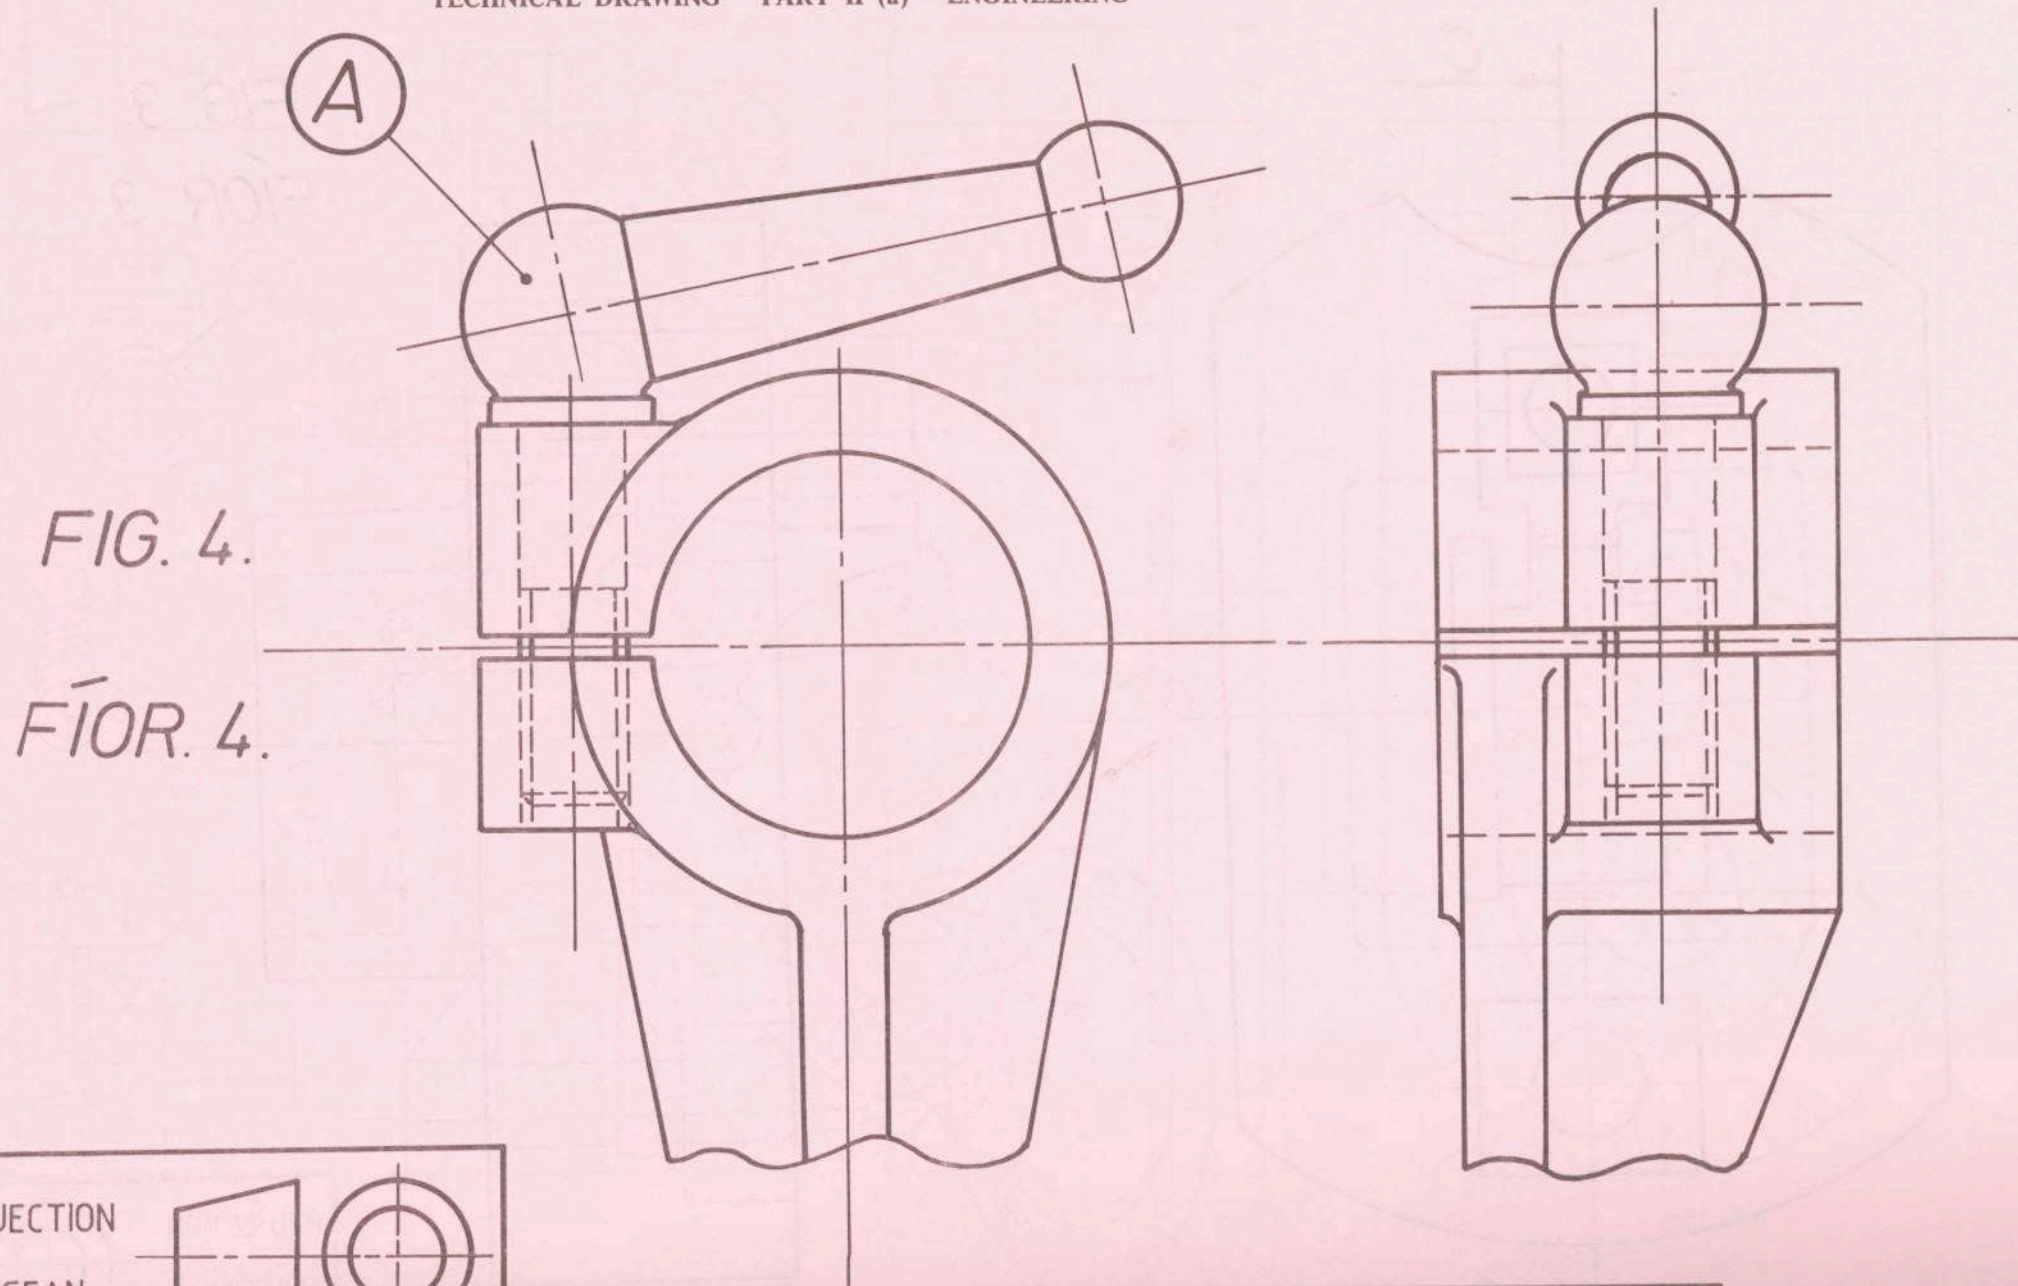

FIG. 4.
- (b) An assembly drawing of a clamp for a machine table is shown in Fig. 4. Make a full size, fully dimensioned working drawing of Part A; dimensions should be taken from the scale provided. The drawing should be in orthographic projection and should include all necessary information.
4. Fig. 4 shows the plan and elevation of the outline of a building. Make a perspective drawing of the building when the station point (spectator) is as shown, the picture plane 7500 mm from the station point and the horizon line 6000 mm above the ground.